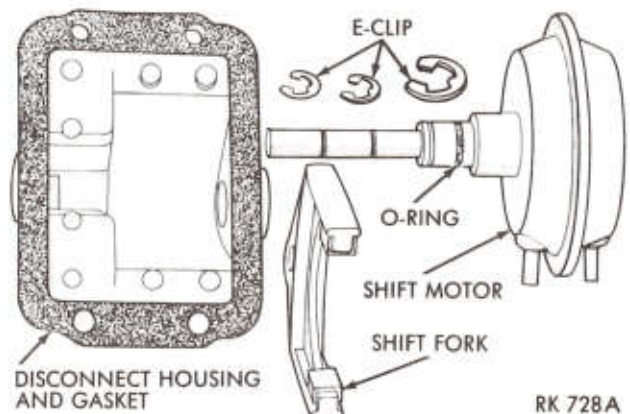

Fig. 21—Disconnect Housing Cover Assembly (Disassembled)
(1) Raise vehicle to a comfortable working height and install jack stands.
(2) Disconnect vacuum lines and wire from switch.
(3) Remove disconnect housing cover assembly, gasket, and shield from axle housing.
(4) Remove E-clips from shift motor housing and shaft and remove shift motor and shift fork (Fig. 21).
(5) Remove O-ring from shift motor shaft.
(6) Clean and inspect parts. If any component part is worn or damaged, it should be replaced.